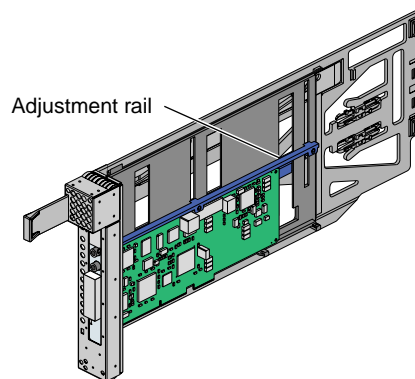

Figure 6-20 Moving Carrier Guide Bar to Secure Half-height PCI Card
- d. Move the carrier guide bar (adjustment rail) so that it holds the card firmly in place (see Figure 6-20).